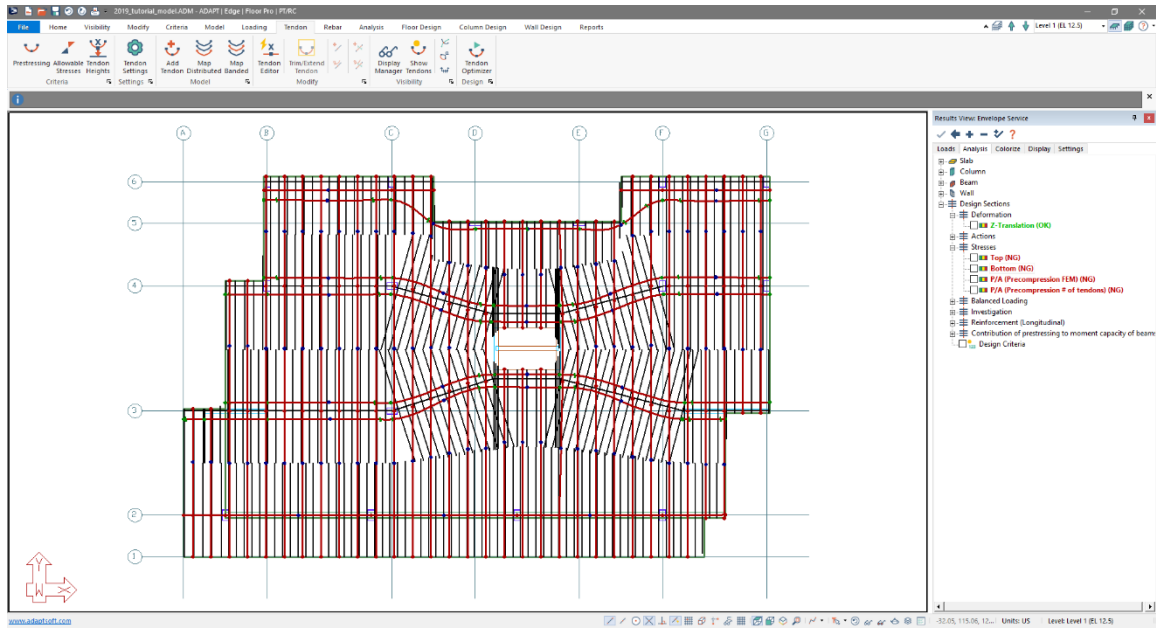

Figure 9-87
- The user's screen should, at this point look similar to **FIGURE 9-87**.